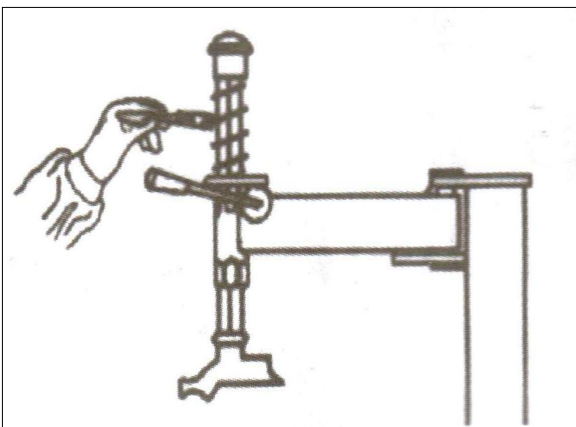

Fig. 25
- Use the diesel oil to clean the hexangular shaft (Fig. 25), Use the machine oil to lubricate.